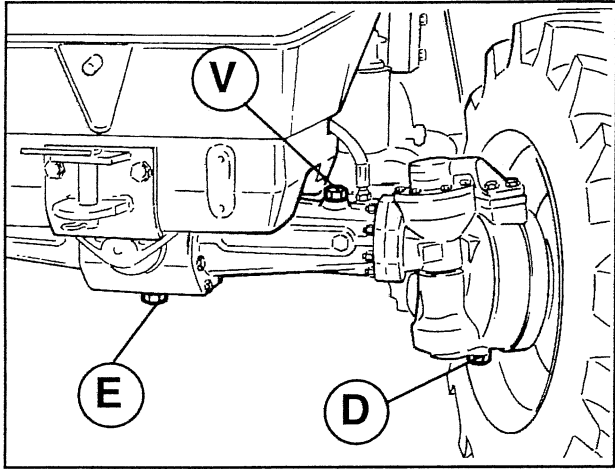

Fig. 39 Changing the differential and front final drive oil.
- 2) Change the differential and front final drive oil (Fig. 39).